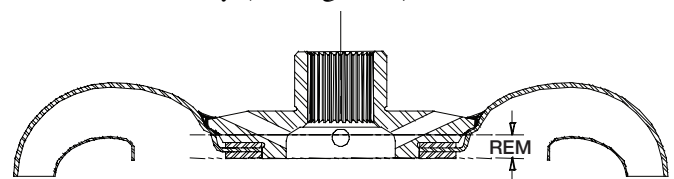

Figure 4
- Machine .345" from the stator bearing face of the turbine assembly (see Figure 4).